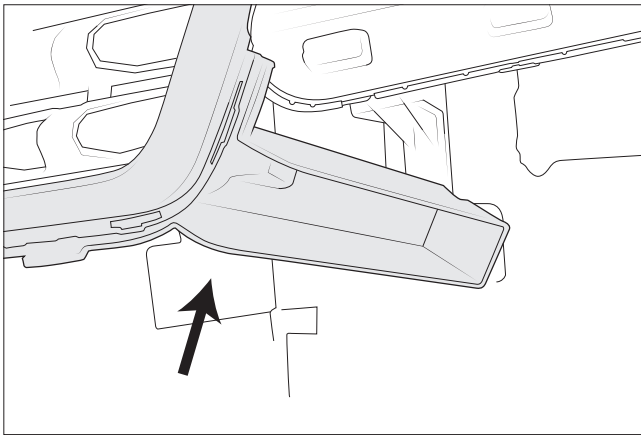

Figure 1
1. Use AEV template (AEV30316) applied to the bottom of the grill supports to mark and drill a hole on each side (fig. 1).